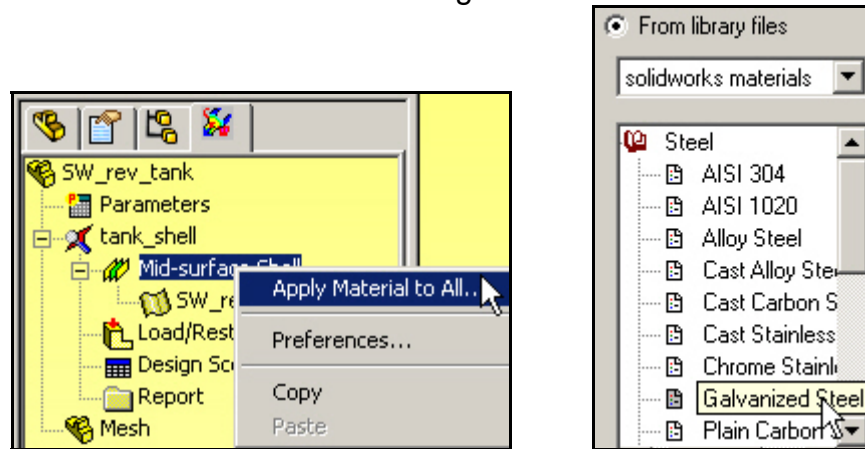

Figure 12 Selecting a shell material
2. Pick **Apply Material to All** → **Material panel** → **From library files button** → **Steel** and select galvanized steel as illustrated in Figure 12.